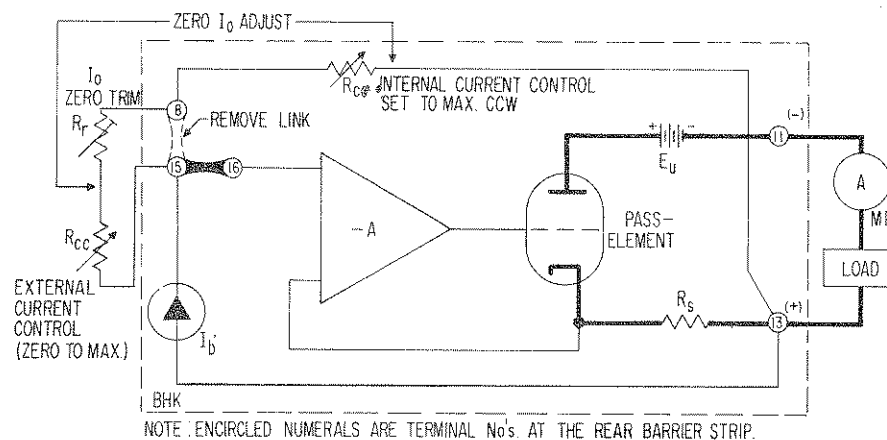

FIG. 3-11 SETUP FOR PRECISION PROGRAMMING RATIO ADJUSTMENT, CURRENT MODE.
- d) No internal zero adjustment is provided in the current mode amplifier; a negative offset in the millivolt range is present. For precision external programming in the current mode of operation, this offset may be zeroed by the insertion of a small trimming resistor in series with the CURRENT ADJUST control. The internal CURRENT ADJUST on the front panel now functions (with the additional external trim resistor) as a zero control. A setup is illustrated with this additional resistor (100Ω) in place (see FIG. 3-11) and an external current control connected. While the *internal* R_{CC} and the trim rheostat R_T set the zero point of I_O , the *external* R_{CC} sets the maximum point of I_O . This concludes the programming ratio adjustment in the current mode. Careful adjustment will yield excellent linearity.